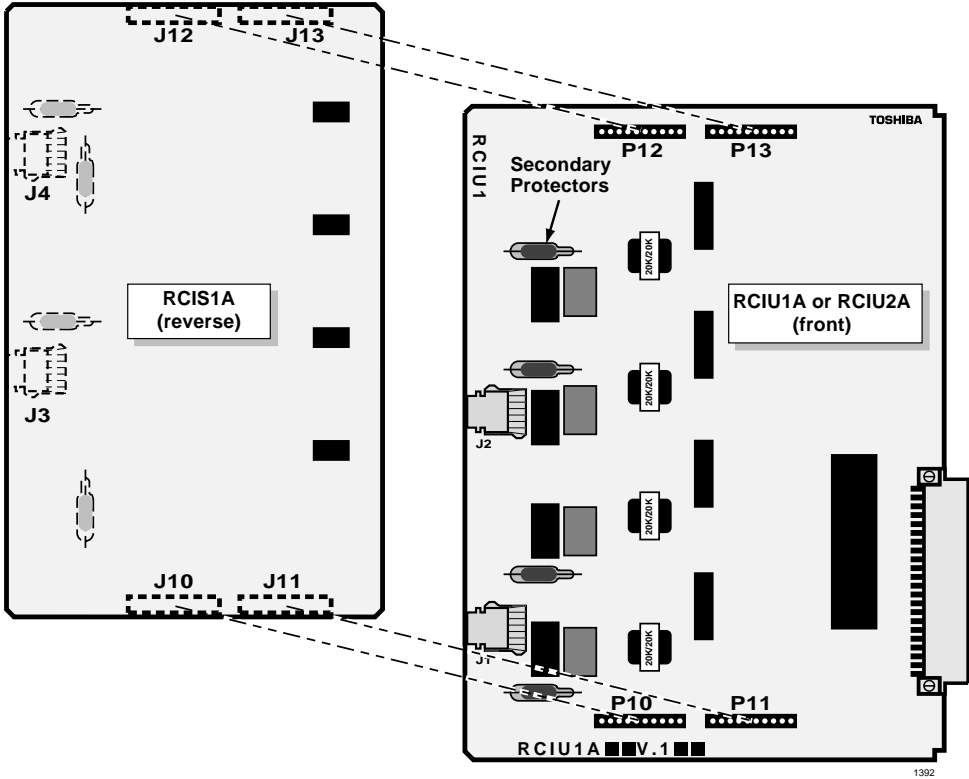

Figure 7-11 DK424 RCIU1/RCIS or DK40i RCIU2/RCIS PCB Installation
1. Install the RCIS onto the RCIU1 or RCIU2 as required (see Figures 7-11 and 7-13).